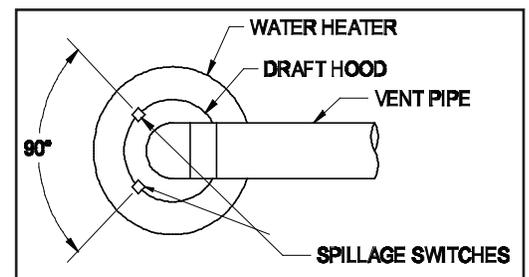

Figure 12
- NOTE:** Draft spillage switches should be mounted 90 degrees apart, and mounted opposite from the vent outlet direction. (See Figure 12)